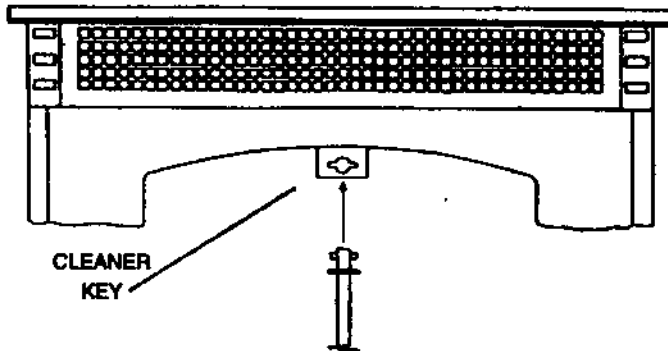

Figure 12
- b. Clean heat exchanger tubes. (See 4.2 and Figure 12)
- b. Clean heat exchanger tubes (see 4.2 and Figure 12).
**A. Heat Exchange Tubes** — The Breckwell is designed with a built-in heat exchange tube cleaner. This should be used every two or three days to remove accumulated ash on the tubes, which reduces heat transfer. Insert tool B in cleaner key (see figure 12), twist, move backwards and forwards several times. Leave tube cleaner at rear of stove.